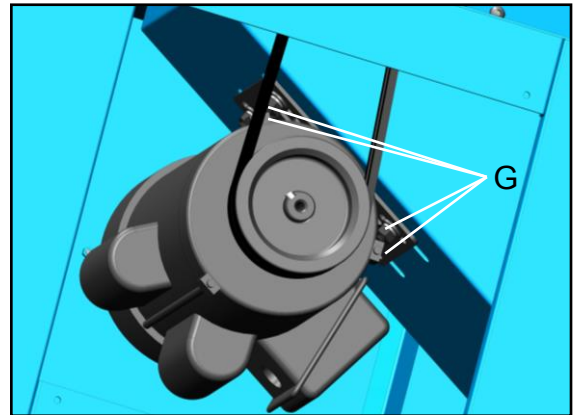

Fig. 29
6. Check that the motor pulley and machine pulley are aligned; this will keep the belt vertical and help prevent excess wear on it. If adjustment is necessary, loosen the set screws in the motor pulley using a hex wrench, and slide the pulley as needed until alignment is achieved. Re-tighten set screws. If the pulleys are not aligned, try to adjust the motor position by motor mount screws (G), Fig. 29) to make sure pulley alignment.